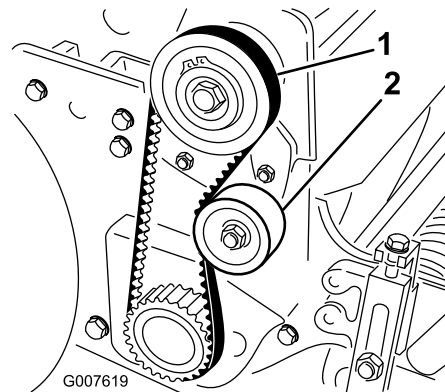

Figure 42
2. Check the tension by pressing the belt at mid-span of the pulleys (Figure 42) with 18 to 22 N (4 to 5 lb) of force. The belt should deflect 6 mm (1/4 inch).
- A. Loosen the idler-pulley mounting nut and pivot the idler pulley clockwise against the backside of the belt until you attain the desired belt tension (Figure 42).